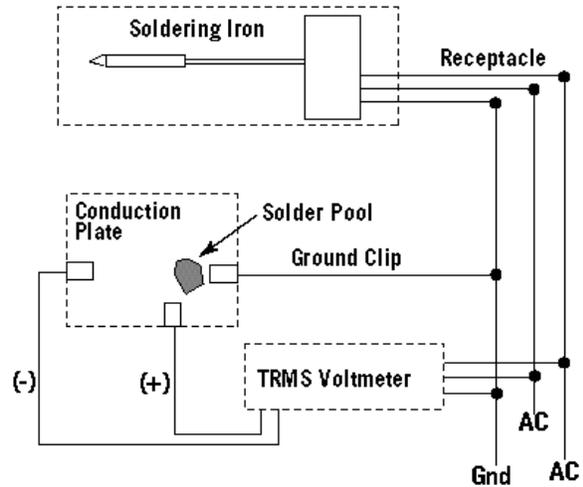

FIGURE 2: INITIAL TEST SET-UP
1. Remove any dirt and corrosion from the conduction plate. (See Figure 2)
4. Attach the ground clip probe to the ground pin on the AC wall receptacle. (See Figure 2)
6. Connect the positive and negative cable wire alligator clips to the conduction plate. (See Figure 2)
14. Calculate the potential difference (P) between earth ground and the tip of the iron by subtracting the first reading (V_1) from the second (V_2).